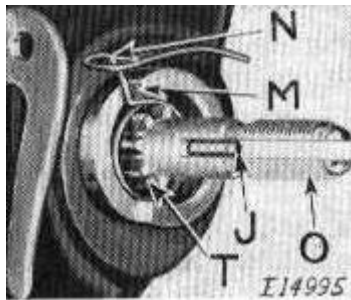

Fig. 1b
First, make sure that the tension spring (J, Fig. 1b) is in place in the stud (O), then place the thread take-up spring on the stud, having the tail (inside the coil) of this spring in one of the grooves (T) of the stud, and with the large loop (N) of the spring resting against the upper end of the recess at (M, Fig 1a). Fig. 1a shows the spring in the correct position on the stud. The tail of the spring is not visible in these illustrations, but its location inside the spring coil is indicated in Fig. 1a by (K).